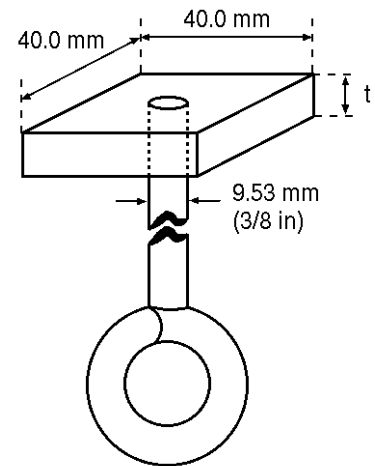

Figure 2. Loading Plate Detail
- The bridge must be constructed to provide a horizontal support for the load (see **3b**) at each of the three possible loading locations. The bridge structure must allow the loading rod to be mounted from below and any portion of the structure above the loading plane must allow clearance for the plate to be lowered from above (see Figure 2).
- The load will be applied by means of a 40. mm square plate (see Figure 2) with a thickness (**t**) of at least 6 mm but less than 13 mm. A 9.53 mm (3/8 inch) diameter eyebolt is attached from below